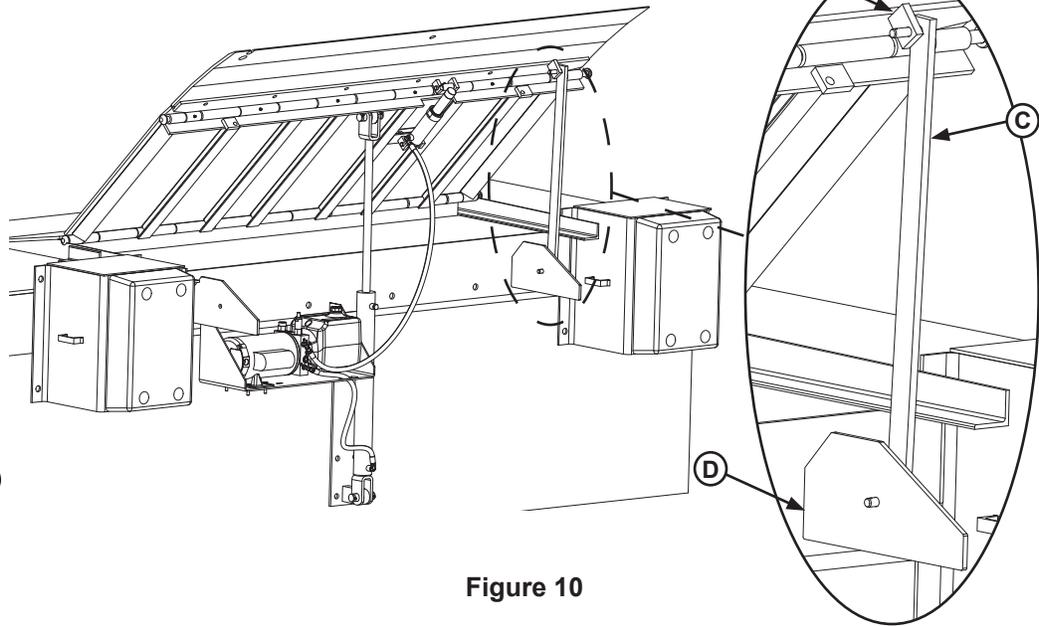

Figure 10
Whenever maintenance is to be performed under the dock leveler, support the dock leveler with the maintenance prop (C). Position the maintenance prop in its support gussets (D). See Figure 10.